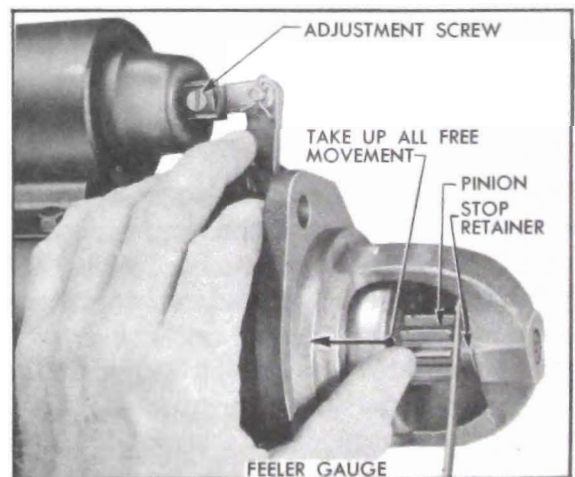

Figure 10-38—Checking Pinion Clearance
4. Push the pinion away from pinion stop retainer as far as possible and use feeler gauge to check clearance between pinion and retainer. See figure 10-38.